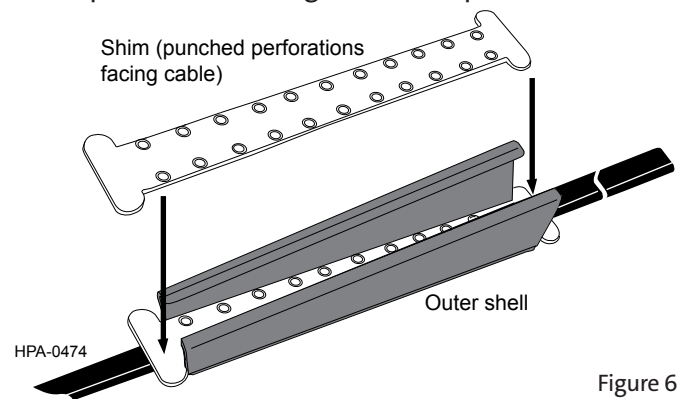

Figure 6
Step 7: Place the shim on top of the cable with the punched perforations facing down on top of the cable. The tabs of the shim should be outside the shell on each side (Figure 6).